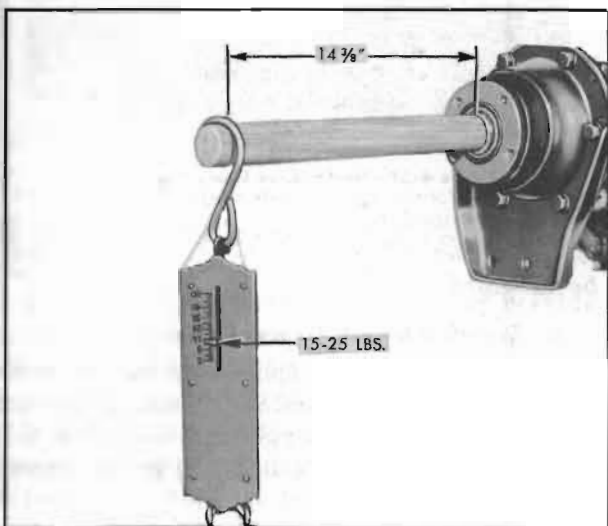

Figure 4-24—Checking Torque Ball Drag
13. Attach spring scale to club at groove located $14\frac{3}{8}$ " from end of universal joint and test pull required to move torque ball when all bolts are tight. See figure 4-24. A drag of 15 to 25 pounds should be obtained. If torque ball is too tight or too loose, loosen bolts and repeat the centering and tightening operation, then recheck drag with club and spring scale.
Final adjustment must provide a uniform drag of 15 to 25 pounds with scale applied at groove in club. See figure 4-24.